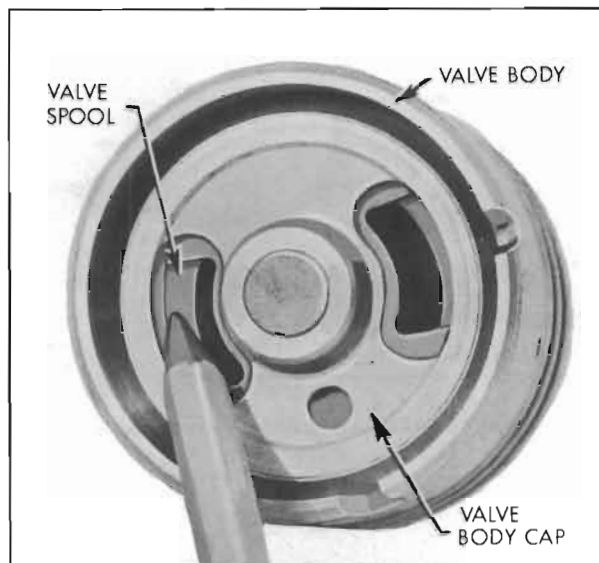
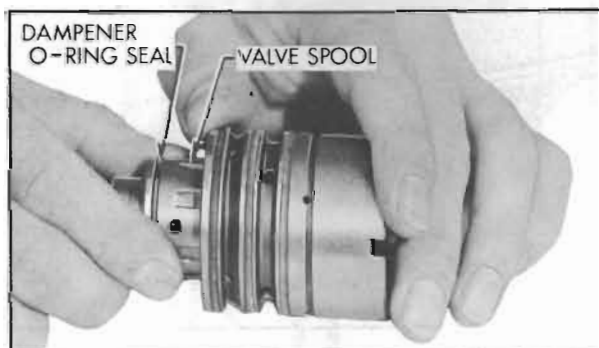

Figure 8-35—Separating Valve Spool From Valve Body
Figure 8-36—Withdrawing Valve Spool From Valve Body
3. Remove the valve spool by holding the valve assembly in one hand with the stub shaft pointing downward. Insert the end of a pencil of wood rod through the opening in the valve body cap and lightly push on the valve spool until it is far enough out of the valve body to be withdrawn. See Figure 8-35. Withdraw the spool with a steady rotating pull to prevent jamming. See Figure 8-36. If slight sticking occurs, make a gentle attempt to reverse the withdrawal procedure. If this does not free spool, it has become cocked in the valve body bore. *Do not attempt to force the spool in or out if it becomes cocked*, but continue with the following step.